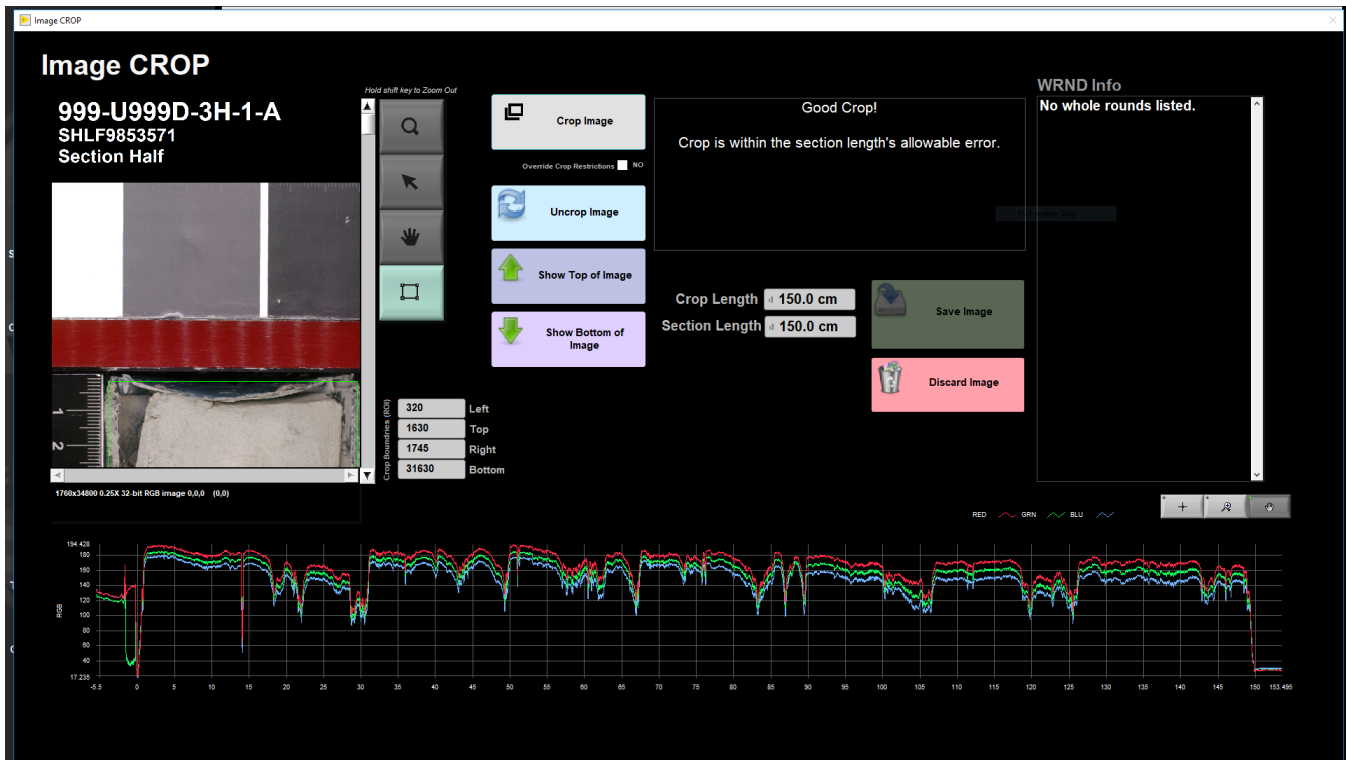

Figure 44. Image CROP window
7. The **Image Crop** window (Figure 44) pops up. An image should be cropped to include all material and the inner edge of the end-cap. RGB data will exclude data outside of the Crop area. The green box is the IMS estimation of the crop area. Click and drag the green lines to adjust the cropped area at the top, bottom, and sides of the image. Tools in this window include: